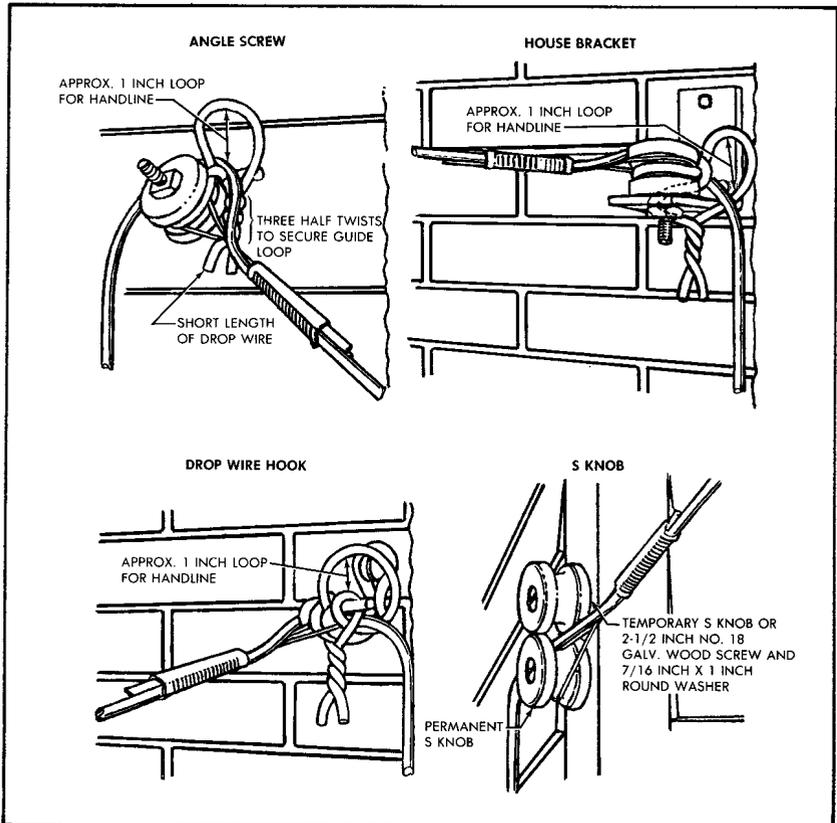

FIGURE 2. Temporary Guide Loop—Building
g. **Employee No. 2** removes the C knob or the D wire clip at the first building attachment. A temporary guide loop is then placed at the first attachment around the drop wire, as shown in Figure 2, to prevent the wire from becoming accidentally disengaged from the building